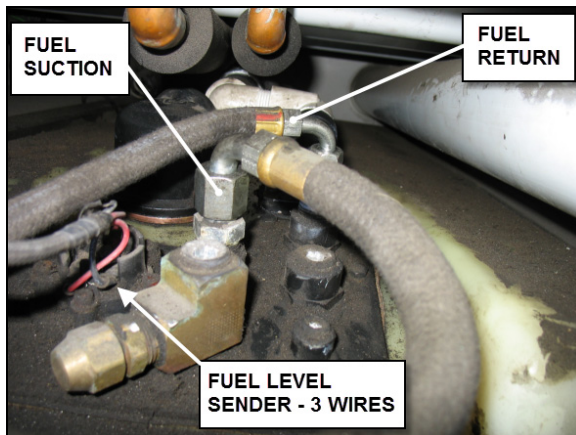

FIGURE 3
- b) Unscrew engine fuel supply (suction) and return lines from fuel tank connection panel (fig.3).
- c) Disconnect the fuel level sender electrical wires (3 wires). Prior disconnecting, identify the wires and proper terminal on the fuel level sender as reference for reinstallation (fig.3).